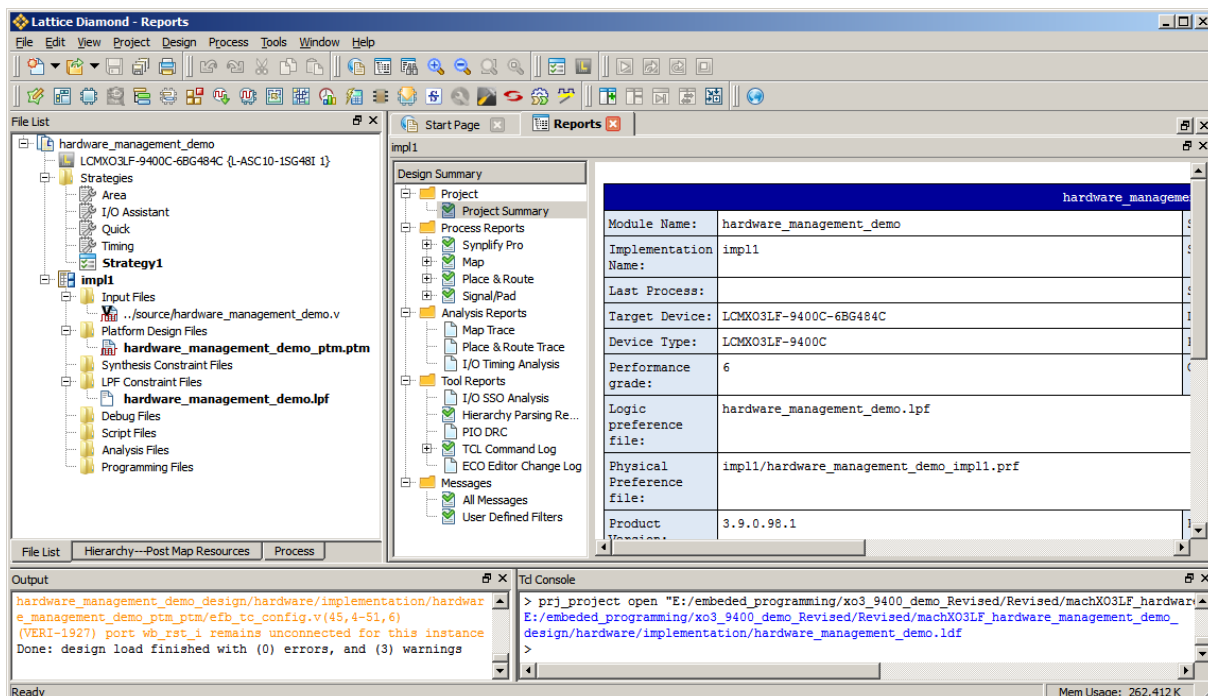

Figure 9.2. Opened Project in Lattice Diamond
2. After the project is opened, double-click “hardware_management_demo_ptm.ptm” as shown in Figure 9.2. This opens Platform Designer.